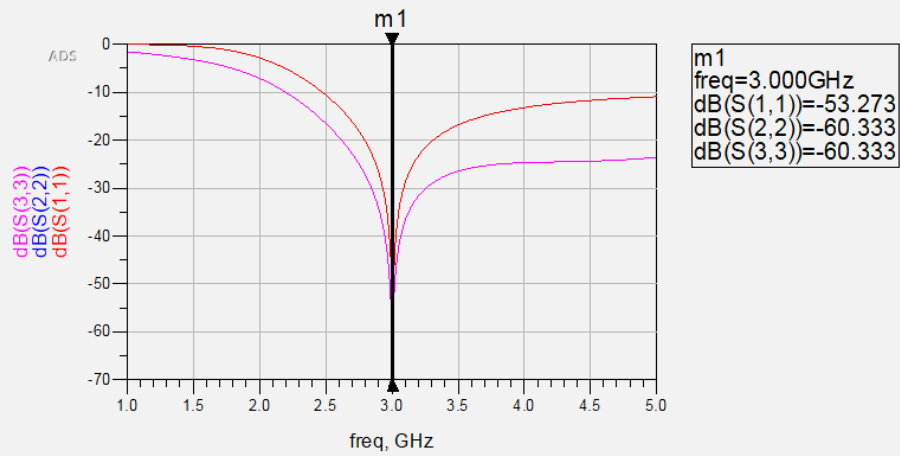
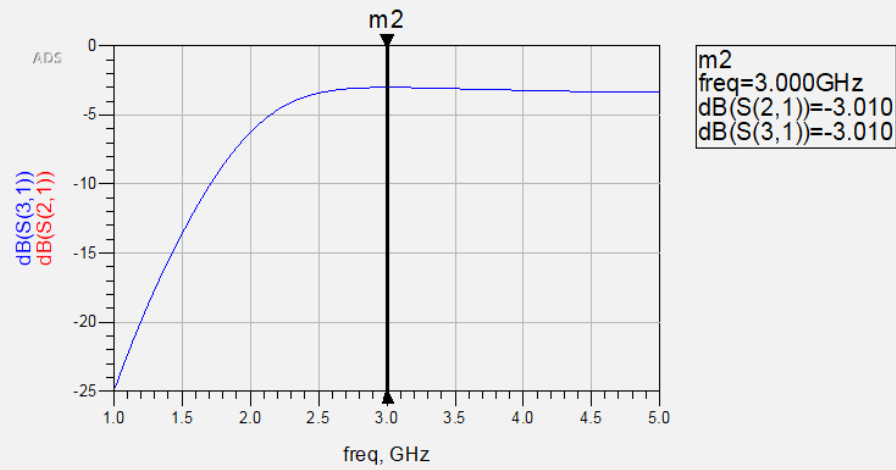
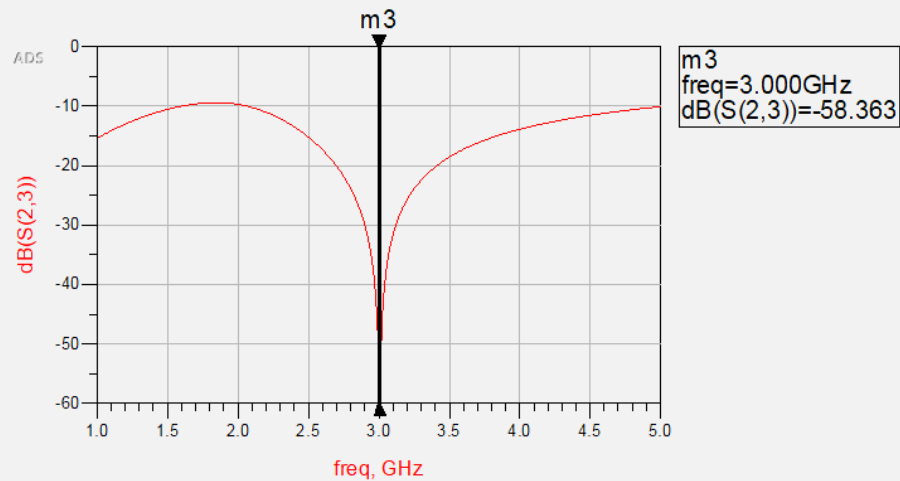

Figure 13.  $S(1,1)$ ,  $S(2,2)$ , and  $S(3,3)$  for the power divider
Figure 14.  $S(2,1)$  and  $S(3,1)$  for the power divider
Figure 15.  $S(2,3)$  for the power divider
3. Set up the S-Parameter simulation from **1 GHz** to **5 GHz** with a step size of 0.01 GHz. Perform the simulation and observe the responses shown in Figures 13, 14, and 15.
Figure 13 shows that there is very little reflection into each port at the design frequency of 3 GHz. Figure 14 shows that there was also about half power going from the input port into each of the output ports. Note that the schematic simulation does not take into account the effect that the layout will have on the results. This will be shown in a later simulation. Figure 15 also shows that there is little coupling between the two output ports. This is a direct result of adding the isolation resistor.